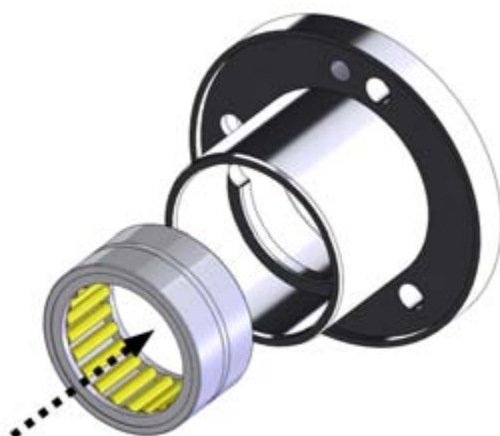

Figure 32. Assembly of the rear bearing
1. Push the bearing into the bearing housing from the back (figure 32).